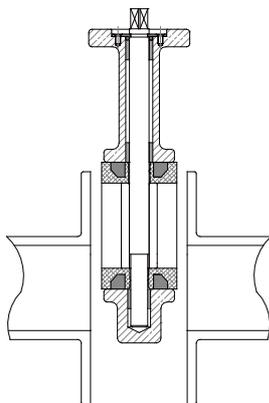

Fig. 1
- Position the butterfly valve carefully between the flanges with the disc fully closed (Fig. 1).